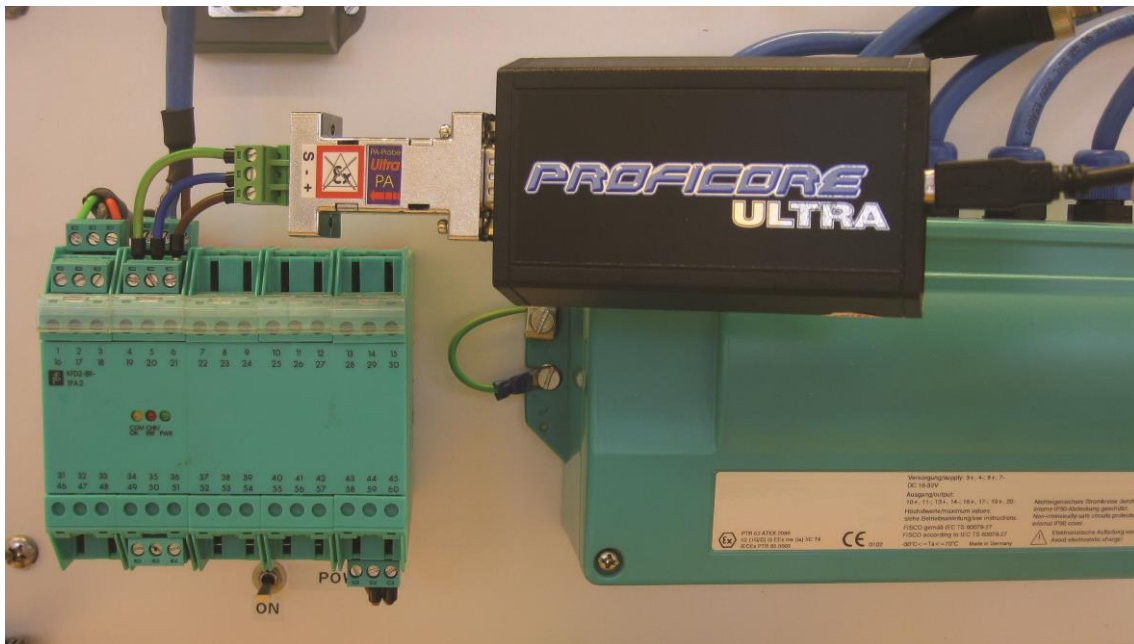

Fig. 12 - Attaching the PA Probe to the installation
Screw/attach the connected leads from the PA Probe to the PA installation (see **Fig. 12**). The recommend location is the PA coupler. The PA Probe has NO imposed polarity for the PA signals, but the shield/ground (S) has to be connected with the coupler to obtain a high quality measurement.